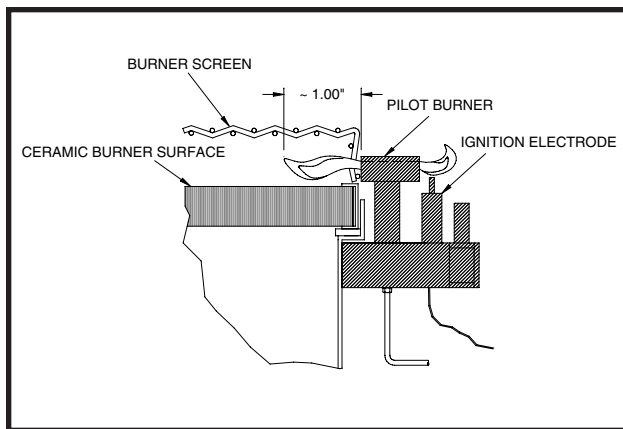

Figure 13. Pilot Light Adjustment
4. While visually observing the pilot flame, rotate the pilot adjustment screw counter-clockwise to increase the flame length or clockwise to decrease the flame length. The flame should be approximately one-inch long. (See Figure 13.)